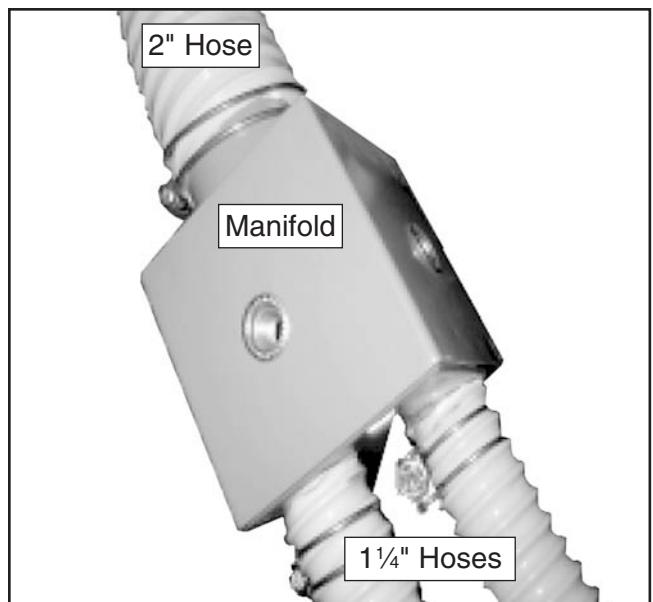

Figure 45. Vacuum hoses attached to the vacuum manifold.
51. Use the 2" hose clamps to attach one end of the 2" x 39" vacuum hose to the cyclone vacuum port and the other end to the vacuum manifold (see **Figure 45**).
52. Connect the vacuum hoses between the vacuum manifold and the collection drum vacuum ports with (4) 1 $\frac{1}{4}$ " hose clamps (see **Figure 45–46**).